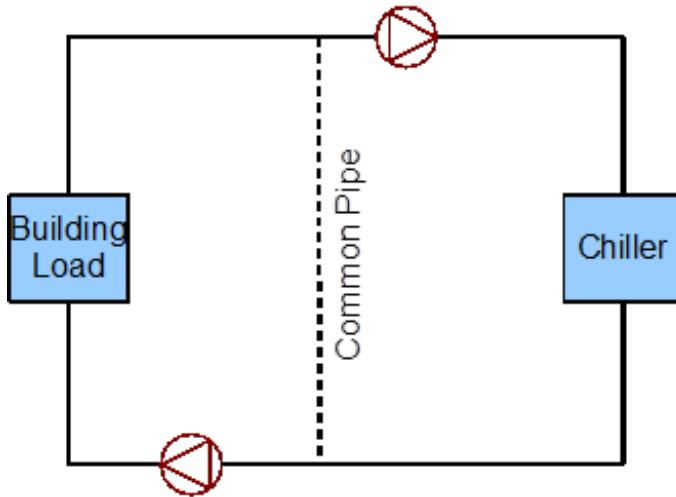

Figure 3 - Simple line diagram for the example system, (recreated from Reed and Davis 2007)
- Obtain a simple engineering line diagram for the system.** This system is a simple cooling system that employs a primary/secondary pumping setup with a one-way common pipe to circulate chilled water through a building. Figure 3 shows the simple line diagram for the system.